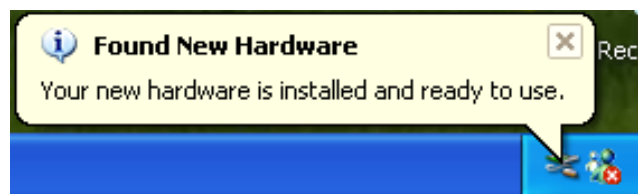

Figure 2-10
**Note:** connect the device at first time, the system prompts that "Found New Hardware Your new hardware is installed and ready to use. " on the right side of task bar, as shown in Figure 2-10, it means that USB Driver is installed successfully.